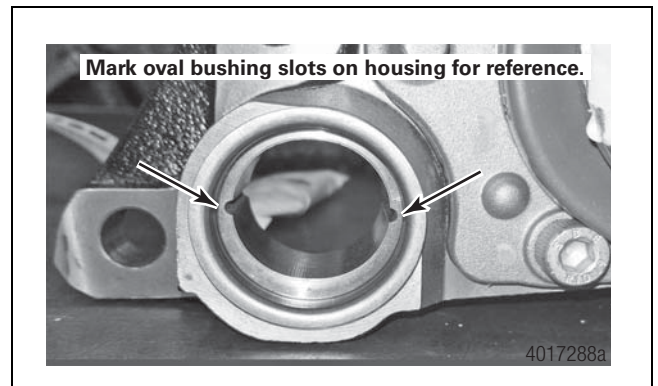
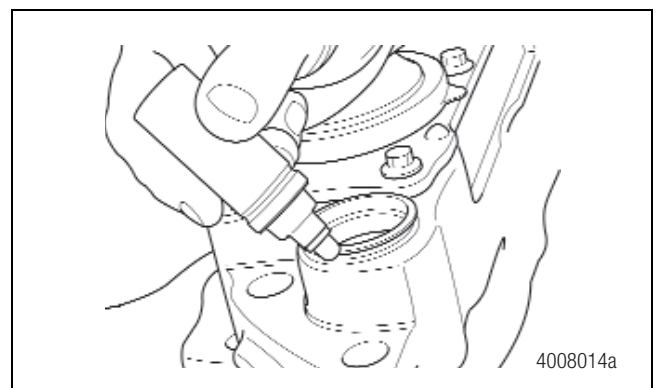

Figure 6.33
Figure 6.34
2. Before removal, check the alignment of the oval bushings and mark the housing so that the new bushings can be correctly aligned when installed. Figure 6.33 and Figure 6.34.